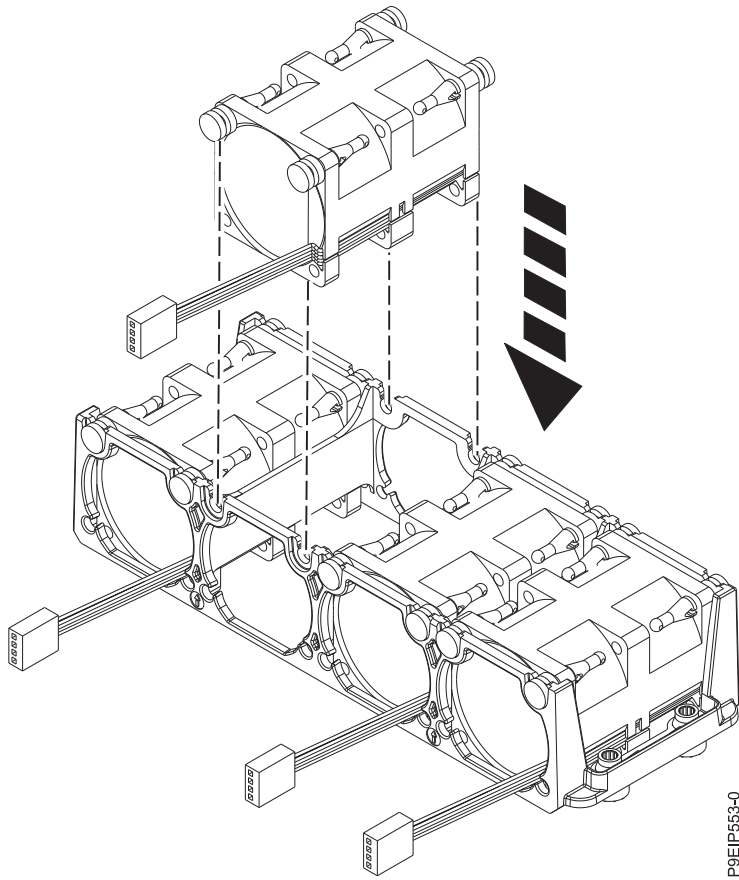

Figure 19. Replacing a fan
2. With the fan holder lifted, push the fan into the housing as shown in Figure 19 on page 21. Align the standoffs in the fan with the slots in the fan holder.